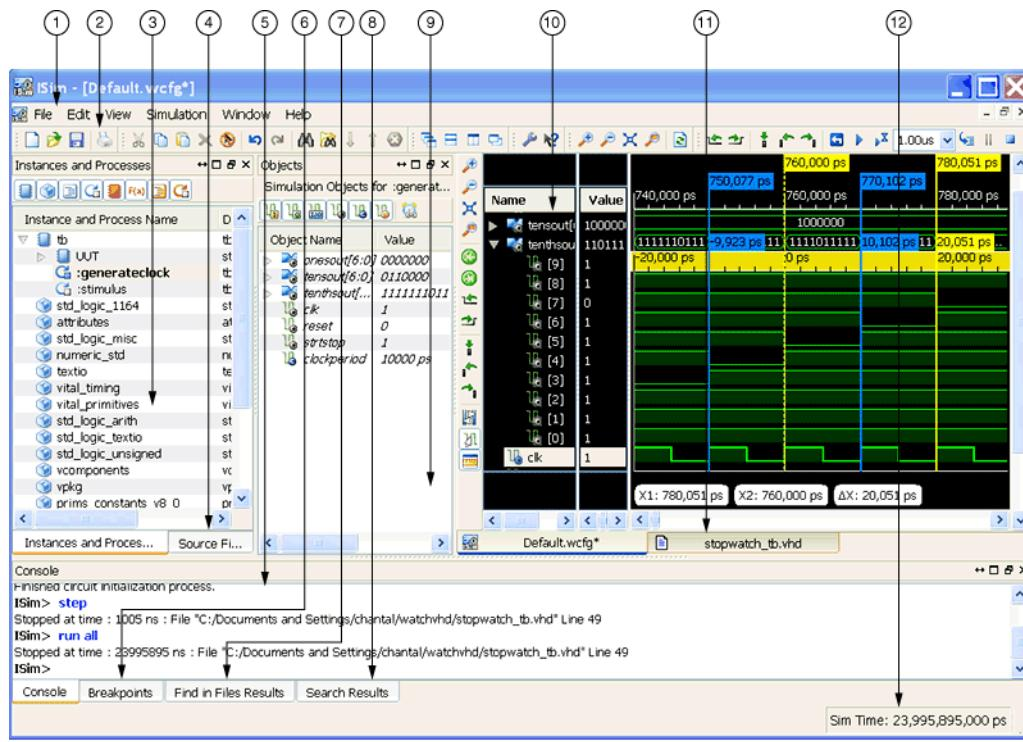

Figure 2-1: ISim GUI
Figure 2-1 shows the ISim GUI.
**Table 2-1** lists the ISim GUI components as identified in Figure 2-1, page 9, and links to the GUI part description.